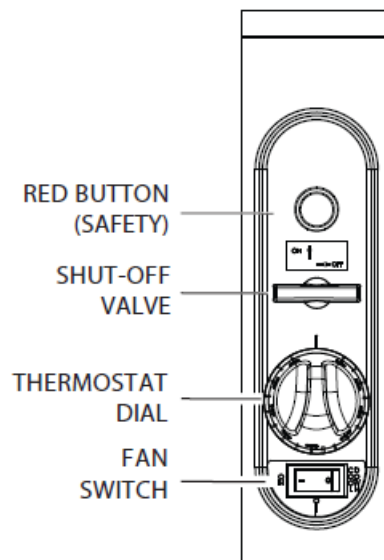

FIG 3
**Convection Oven – “C” Model (Fig. 3)**